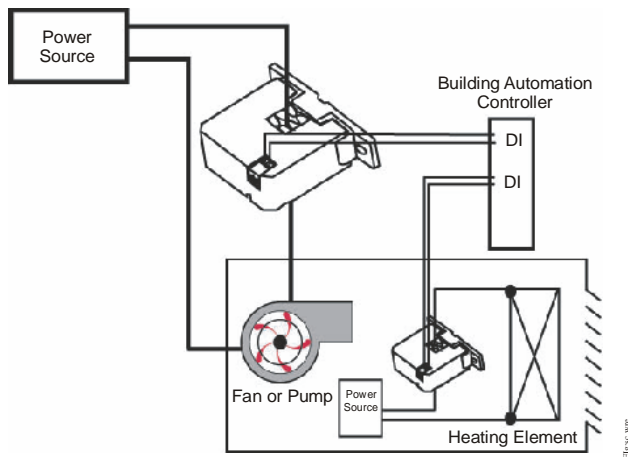
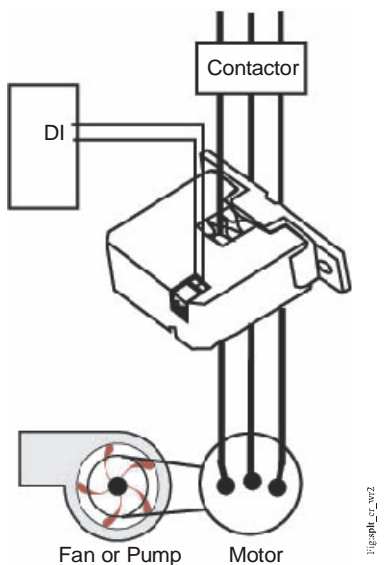

Figure 2: Model CSD-CF0A0-1/CSD-CF0J0-1
Figure 3: Model CSD-CA1G0-1
3. Wire CSD output terminals to the control box Digital Input (DI) terminal (30 V max. terminal voltage).
4. Reconnect the power conductor cable. (For wiring example, see Figure 2 and Figure 3.)